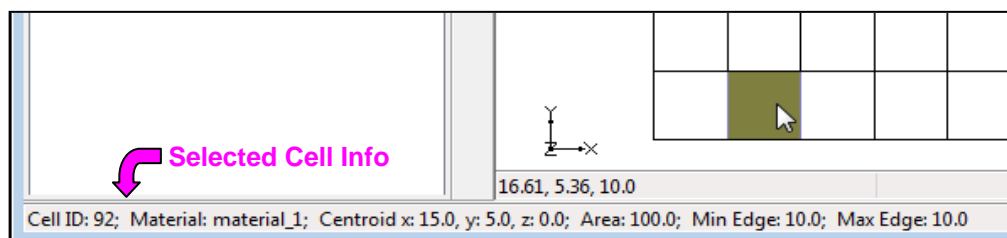

Figure 11 Status bar showing selected cell information
- Using the **Select Cells**  tool, click on any of the cells in the UGrid (Figure 11). Notice that several items of information about the selected cell are displayed in the status bar at the bottom of the main GMS screen.